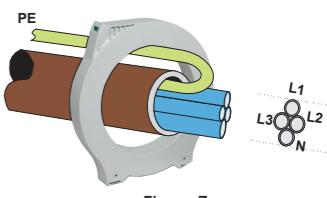

Figure 7
In the event of having to route a cable hose containing all the conductors, including the earth conductor (PE), the PE conductor must be routed in the opposite direction to counteract the effects of its original path. (Figure 7)